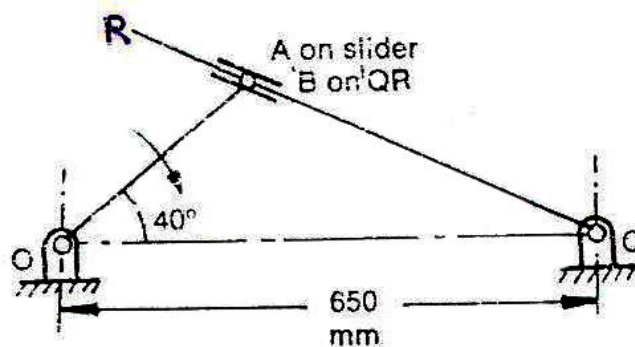

Fig. Q. 4 (c)
- c) For inverted slider crank mechanism shown in fig. Q. 4 (c), find the angular velocity of the link QR and sliding velocity of the block on the link QR. The crank OA is 300mm long and rotates 20 rad/sec in the clockwise direction $OQ = 650\text{mm}$, $\angle QOA = 40^\circ$. 10